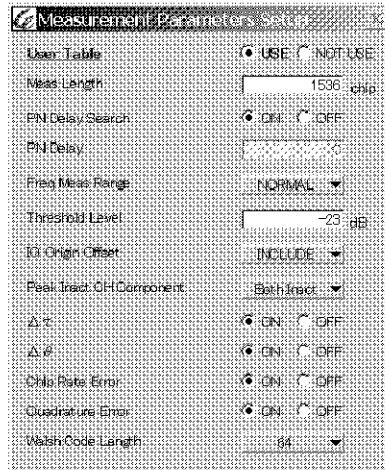

Figure A-7 [Measurement Parameters Setup] Dialog Box when Using [User Table]
2. Set [USE] of the [User Table] option button in the [Measurement Parameters Setup] dialog box. This instrument is set so that User Table set in previous step 1 is used. (See Figure A-7)